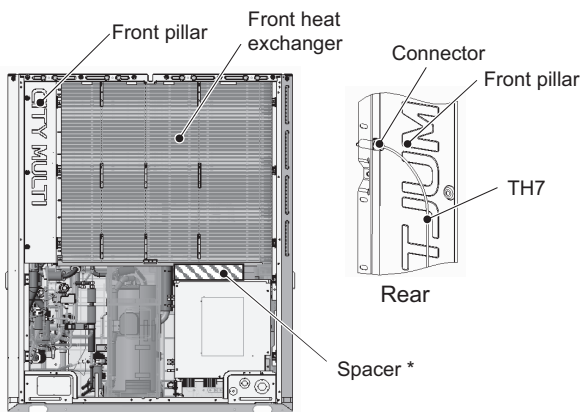

Figure 12
- (15) Remove the front pillar by unscrewing the 7 screws. (See Figure 12.)
- (16) Disconnect the TH7 sensor holder from the front pillar. (See Figure 12 Rear.)